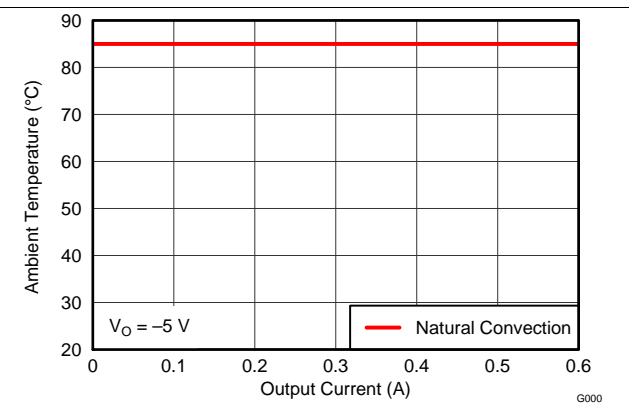
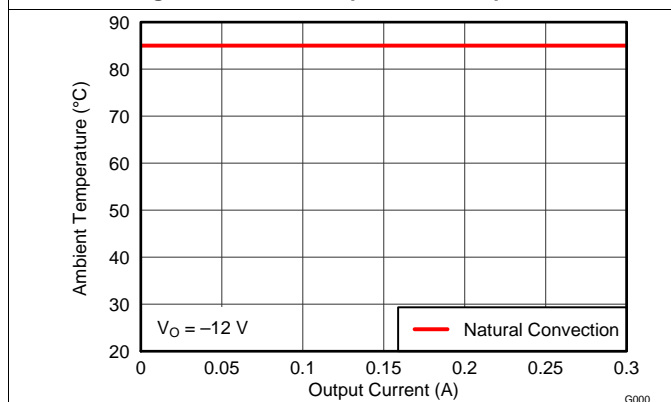
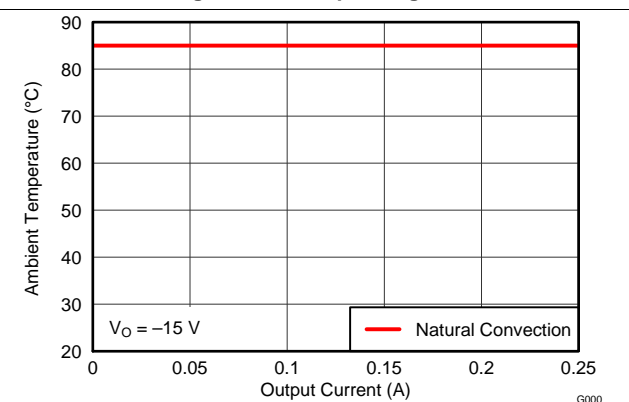

Figure 4. Safe Operating Area
Figure 5. Safe Operating Area
Figure 6. Safe Operating Area
- (2) The temperature derating curves represent the conditions at which internal components are at or below the manufacturer's maximum operating temperatures. Derating limits apply to devices soldered directly to a 100 mm x 100 mm, 4-layer, double-sided PCB with 1 oz. copper. Applies to Figure 4, Figure 5, and Figure 6.